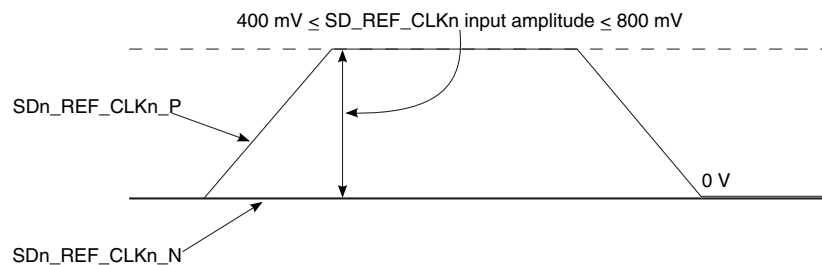

Figure 36. Single-ended reference clock input DC requirements
- The SDn_REF_CLKn_P input average voltage must be between 200 and 400 mV. Figure 36 shows the SerDes reference clock input requirement for single-ended signaling mode.